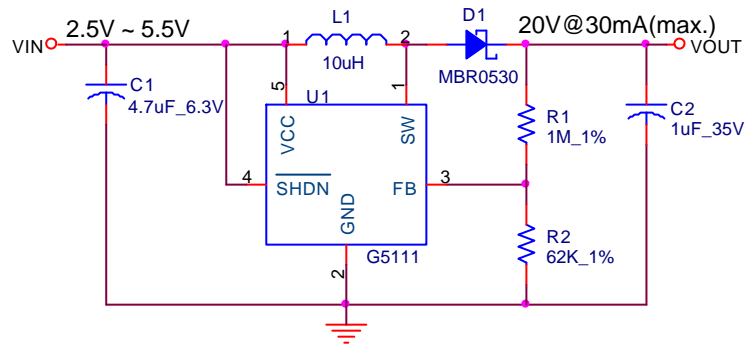

Fig.1
To make a good PCB layout, understanding the circuit signal path is necessary. The following discussion will base on G5111 typical application circuit show as Fig.1.
The major noise source of a step-up DC/DC converter is the SW pin of G5111. It called as switching node (LX). In generally, 3 components are connected at this node, inductor(L1)、 diode(D1) and switch(G5111). When normal operating, LX will switch at full swing from 0V to $V_{OUT} + V_{F,DIODE}$. In the typical application of G5111 show as Fig.1, the full swing is from 0V to 20V, and switching 0mA ~ 350mA. The LX node is a related very large EMI noise source.